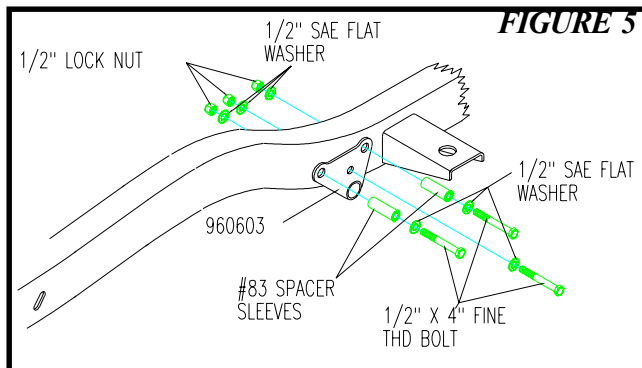

FIGURE 5
- c. Install (1) 1/2 X 4" fine thd bolt, (2) 1/2 SAE flat washers, and (1) 1/2 fine thd lock nut into the center hole as shown in **figure 5**.
- a. Install spacer sleeves into the outside mount points as shown in **figure 5**, (DO NOT LET SLEEVES DROP INTO THE FRAME RAILS).
- b. Install (1) 1/2 X 4" fine thd bolt, (2) 1/2 SAE flat washers, and (1) 1/2 fine thd lock nut into each of the two mount points, being sure to have the bolt pass through the sleeves as shown in **figure 5**.